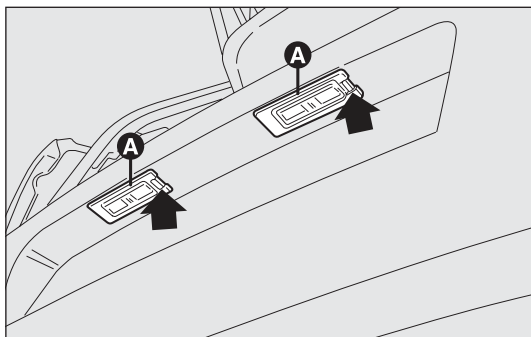

fig. 150
- ☐ act on the point shown by the arrow and remove the lens unit A-fig. 150;